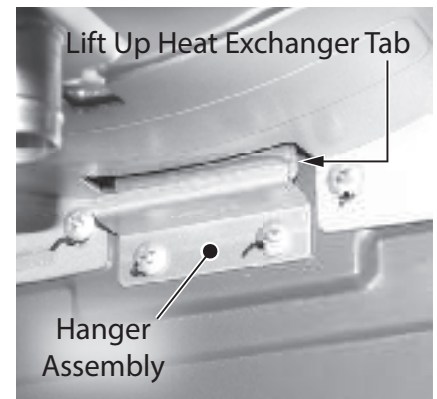
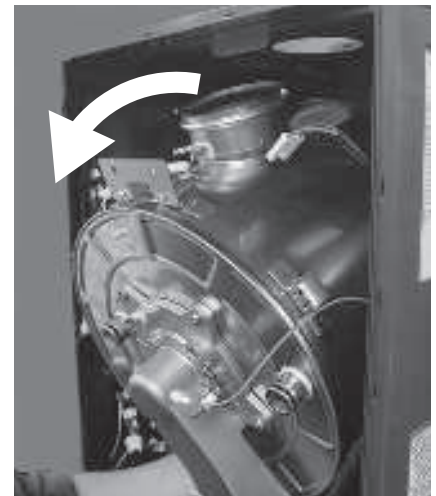

Figure 148 - Heat exchanger tab and hanger (bottom side of heat exchanger)
Figure 149 - Remove heat exchanger
- 47** Remove the top two (2) screws from install bracket. Allow heat exchanger to lean slightly forward. Lift up to remove heat exchanger tab from hanger assembly and remove heat exchanger from water heater. See Figure 148 & Figure 149 for reference.